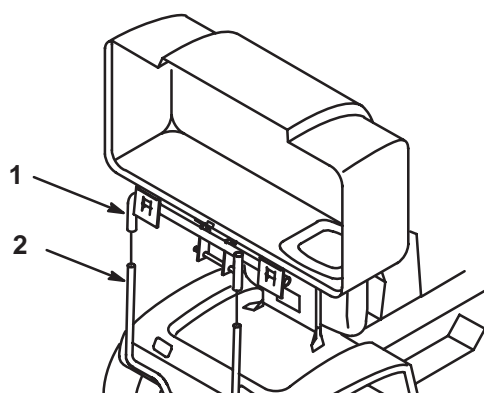

Figure 24
4. With the lid in the open position, carefully lift the bagger top and slide it onto the quick-attach bracket (Fig. 24).